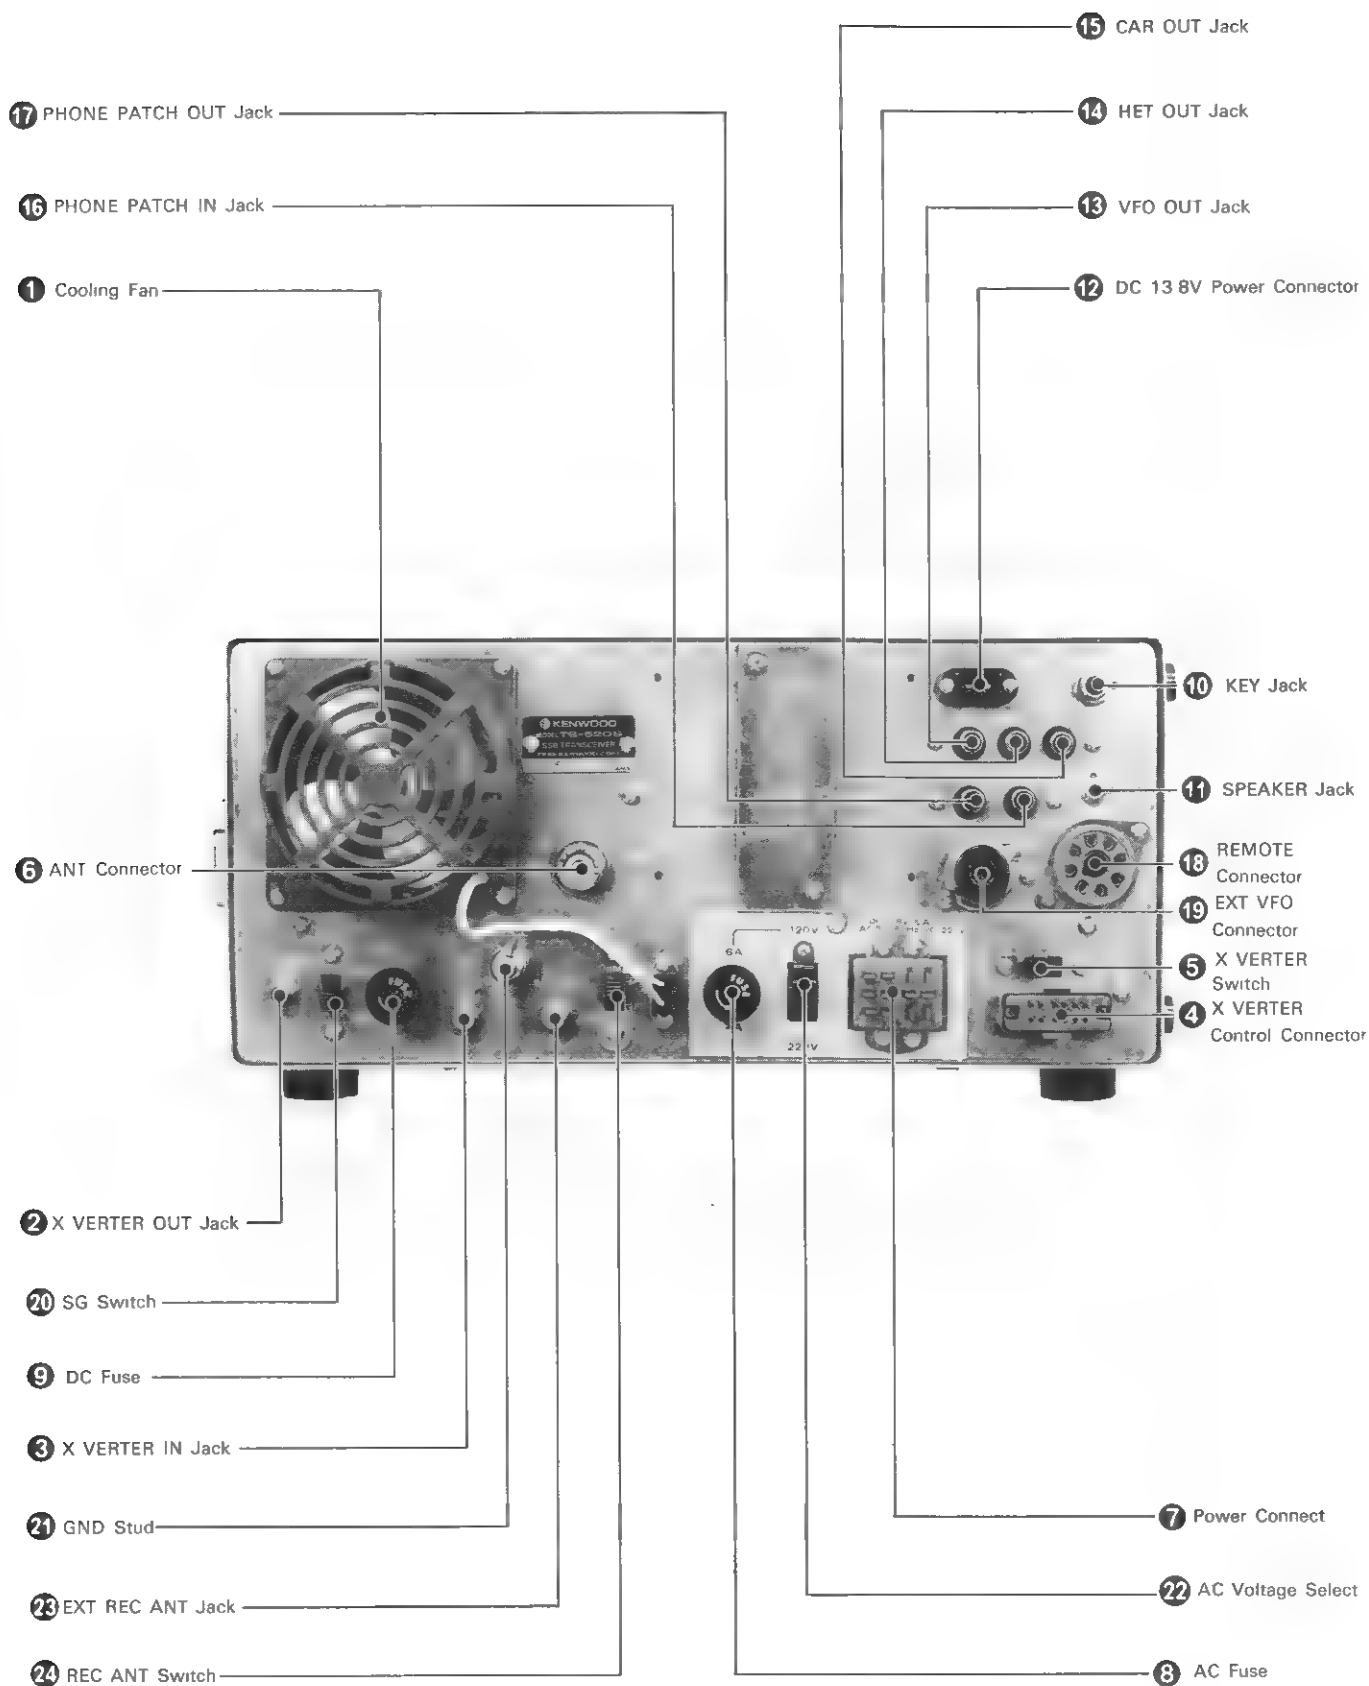

Fig. 7 Rear Panel Controls
3.3 REAR PANEL CONTROLS (See Figure 7)
■ COOLING FAN (① on Figure 7)
■ TRANSVERTER OUT JACK (② on Figure 7)
■ TRANSVERTER IN JACK (③ on Figure 7)
■ TRANSVERTER CONNECTOR (④ on Figure 7)
■ XVERTER SWITCH (⑤ on Figure 7)
■ ANTENNA CONNECTOR (⑥ on Figure 7)
■ POWER SUPPLY CONNECTOR (⑦ on Figure 7)
■ AC FUSE (⑧ on Figure 7)
■ DC FUSE (⑨ on Figure 7)
■ KEY JACK (⑩ on Figure 7)
■ SPEAKER JACK (⑪ on Figure 7)
■ 13.8V DC CONNECTOR (⑫ on Figure 7)
■ VFO OUT JACK (⑬ on Figure 7)
HET OUT JACK (⑭ on Figure 7)
CAR OUT JACK (⑮ on Figure 7)
■ PHONE PATCH IN JACK (⑯ on Figure 7)
■ PHONE PATCH OUT JACK (⑰ on Figure 7)
■ REMOTE CONNECTOR (⑱ on Figure 7)
■ EXTERNAL VFO CONNECTOR (19 on Figure 7)
■ SG SWITCH (20 on Figure 7)
■ GND (Ground) LUG (21 on Figure 7)
■ AC VOLTAGE SELECT SWITCH (22 on Figure 7)
■ EXTERNAL RECEIVER ANTENNA JACK (23 on Figure 7)
■ RECEIVER ANTENNA SWITCH (24 on Figure 7)